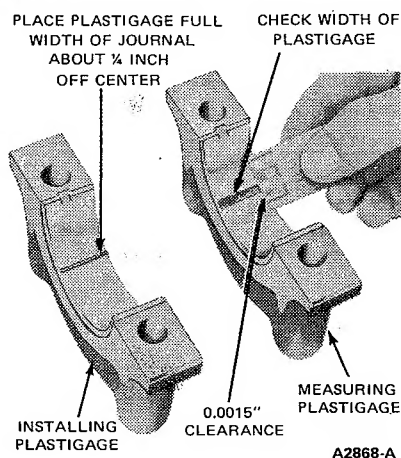

FIG. 11 Installing and Measuring Plastigage
3. Place a piece of Plastigage on bearing surface across full width of bearing cap and about 1/4 inch off center (Figure 11).